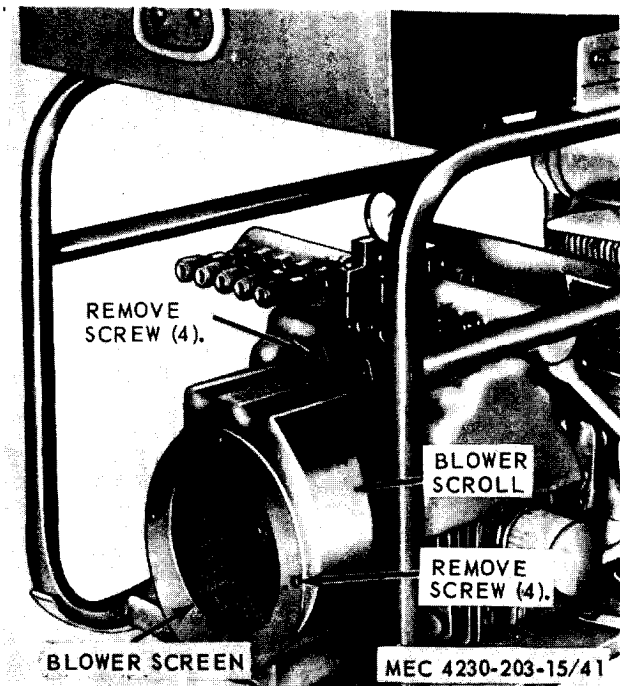

Figure 4-28. Blower scroll and screen, removal and installation.
a. *Removal.* Refer to figure 4-28 and remove the blower screen. Remove blower wheel (para 4-30) and remove scroll.